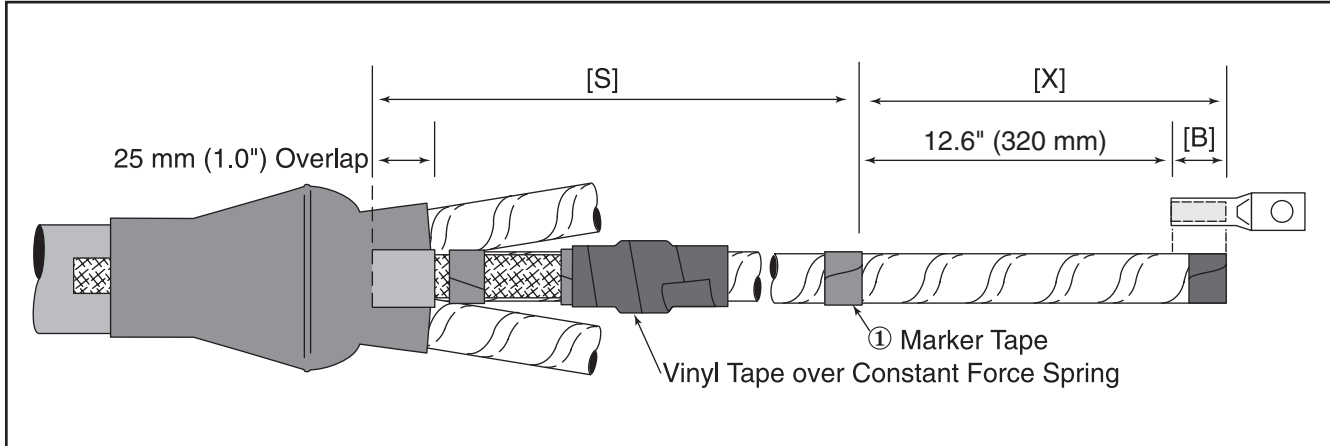

Figure 5
4.1 Place a vinyl tape marker on each cable phase leg at dimension [X] (① *Figure 5*).
4.2 Determine required re-jacketing sleeve length for each phase leg (Distance [S], *Figure 5*). Be sure to include 25 mm (1.0") breakout boot finger overlap in measurement.